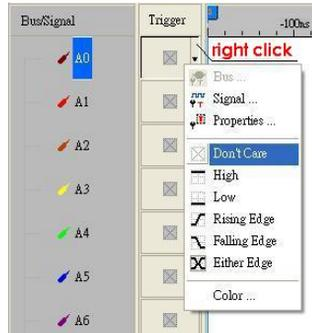

Fig 4-17 – Trigger Right Click
2. Right click  to set the signal trigger edge as shown in Fig 4-17.